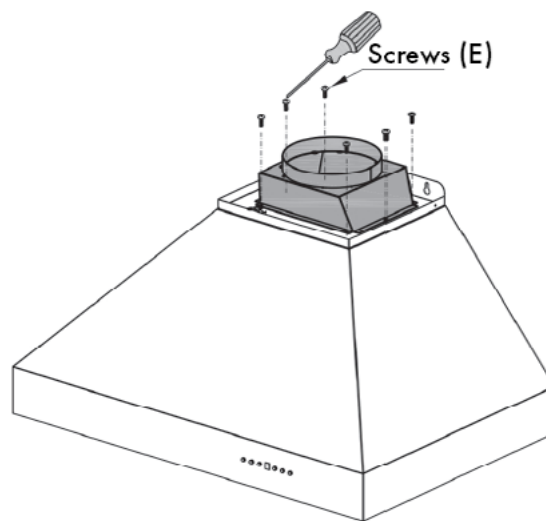

Figure 3
5. Install the transition piece on top of the range hood by securing it with screws (E) provided. Some hoods require 4 screws, others require 6. *Figure 3*